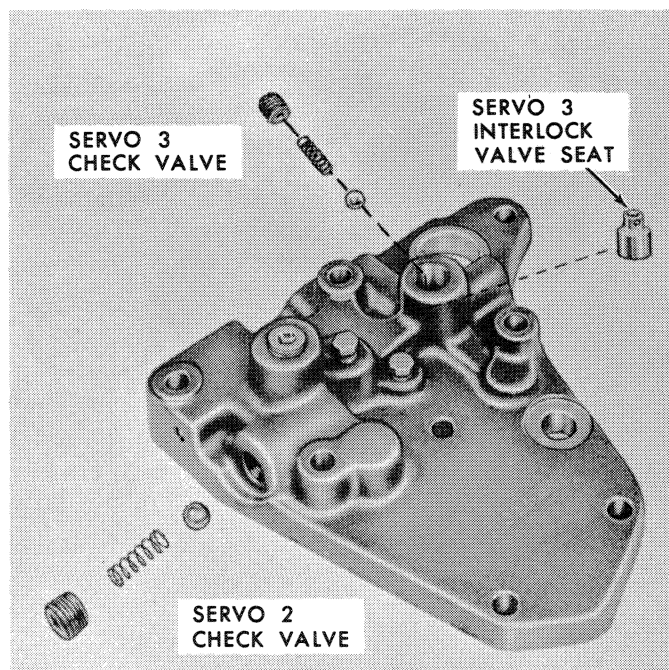

Figure 93
2. Remove the hex socket plug, spring, and check valve from the opposite side of the servo 3 interlock valve seat. See Figure 93.